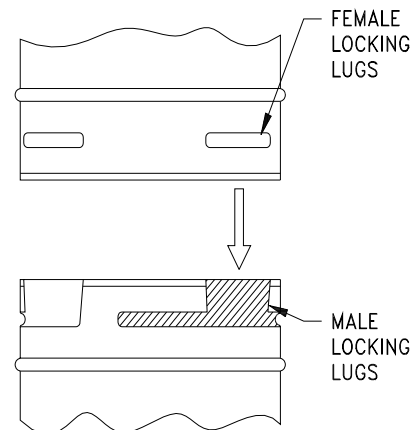

Figure 3: Twist-Lock Piping
DuraVent and American Metals pipe and fittings are designed with special twist-lock connections. Twist-lock procedure is as follows: four (4) indentations, located on the female ends of pipes and fittings are designed to slide straight in to the male ends of the adjacent pipes and fittings, by orienting the four pipe indentations so that they match and slide into the four entry slots on the male ends (Figure 3).